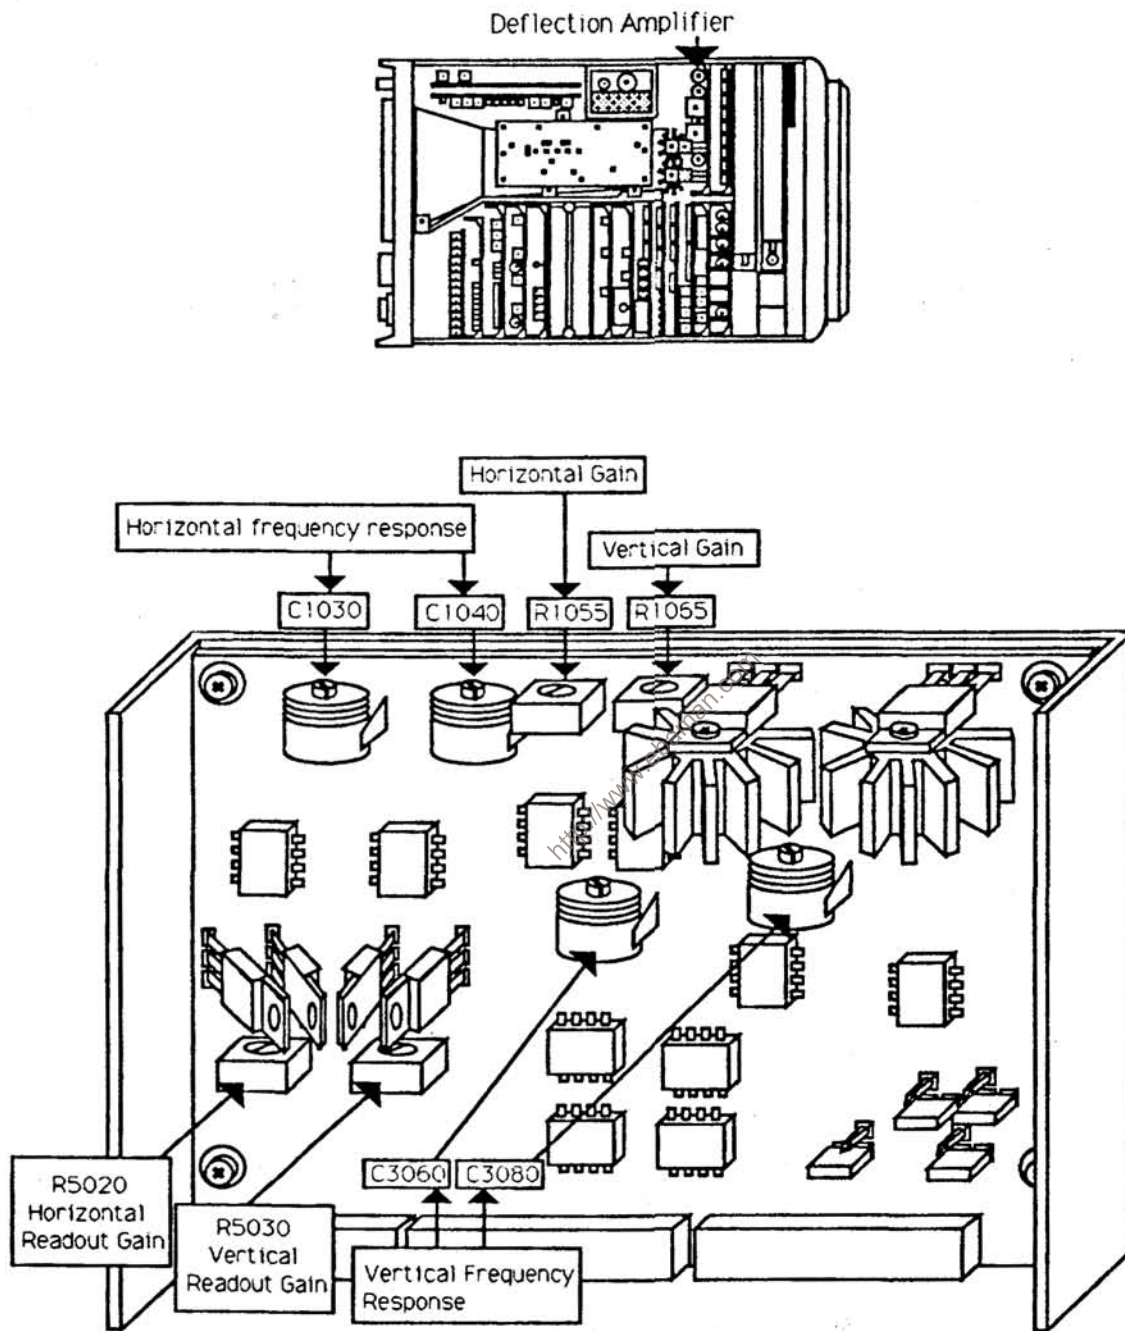

Figure 5-6. Deflection Amplifier test points and adjustments
- K. Monitor the drains (metal tabs) of Q4040 or Q4030, on the deflection Amplifier board, with test oscilloscope. See Figure 5-6
- N. Adjust C1030 (Figure 5-6 for the best response).
Replace figure 5-6 in the Adjustment procedure section with the following diagram